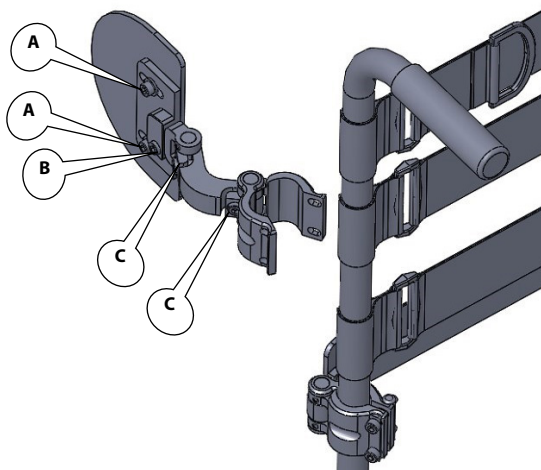

Figure 4
- 1) Install the anchoring mechanisms at a predetermined height by tightening the clamp with a 4mm Allen key. (Figures 4, 5 and 6)